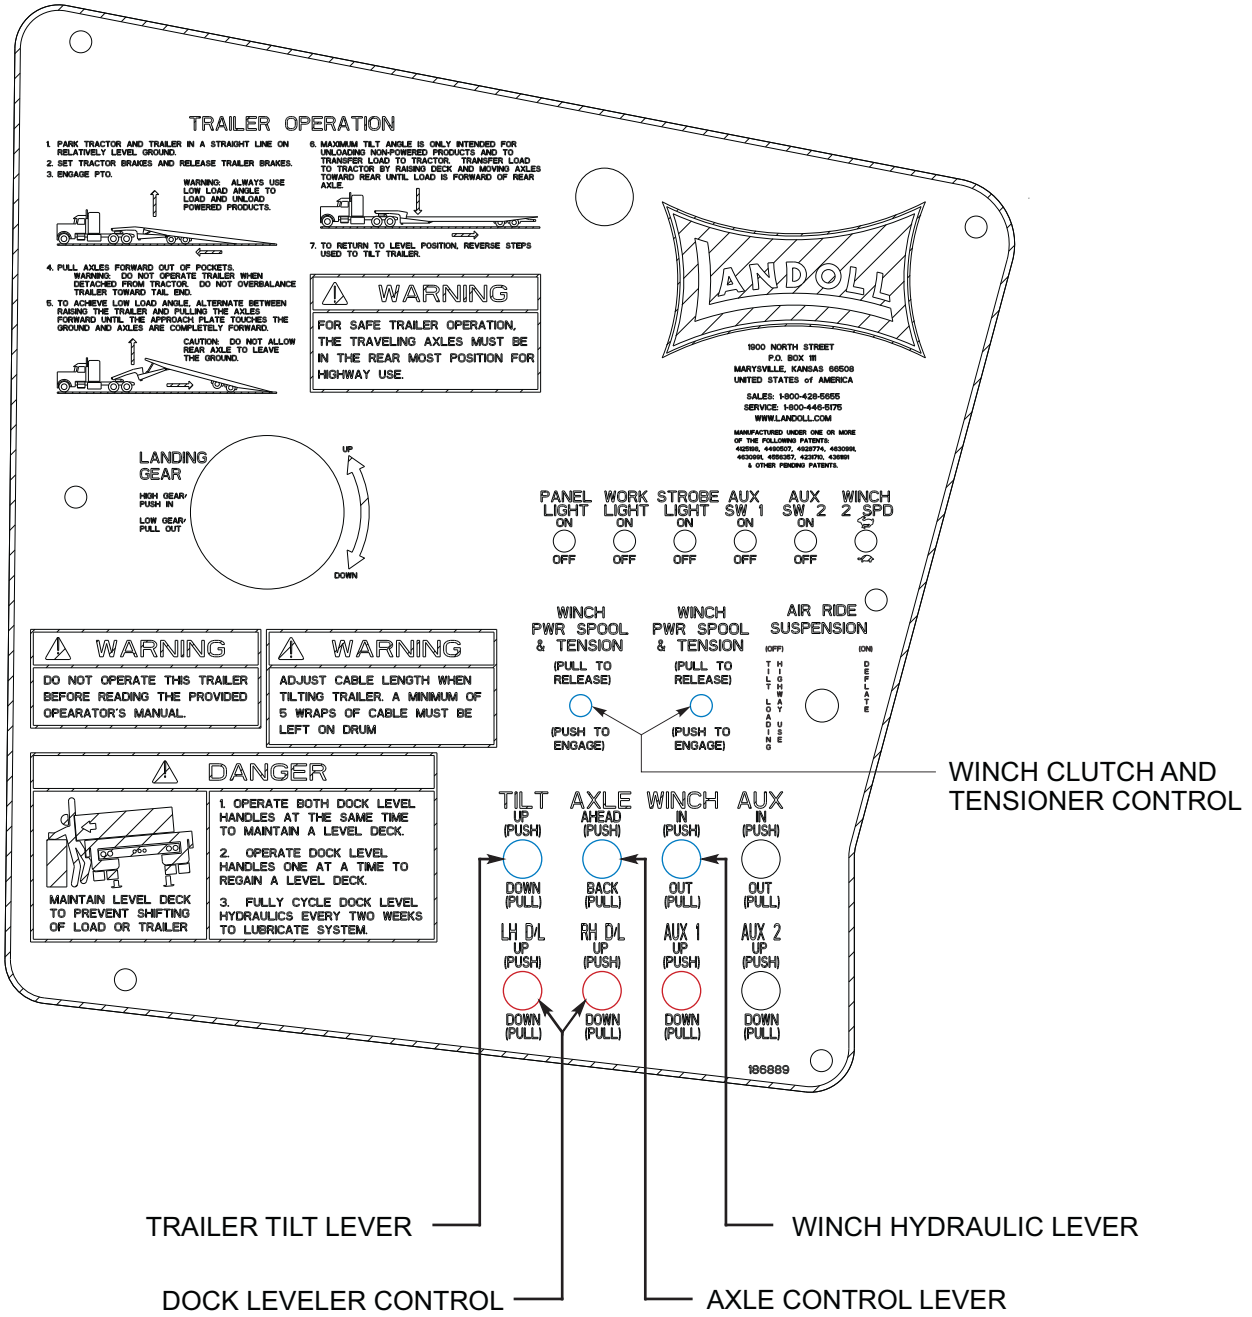

Figure 3-4: Hydraulic Controls
2. The Landing Gear knob is located in the hydraulic control panel (*See Figure 3-4.*) It has three positions:
The Trailer Tilt knob is located on the driver’s side of the upper deck (*See Figure 3-4.*) It is the front knob and has three positions:
The Axle Control knob (*See Figure 3-4*) is located on the control panel. It is the third knob with three positions: